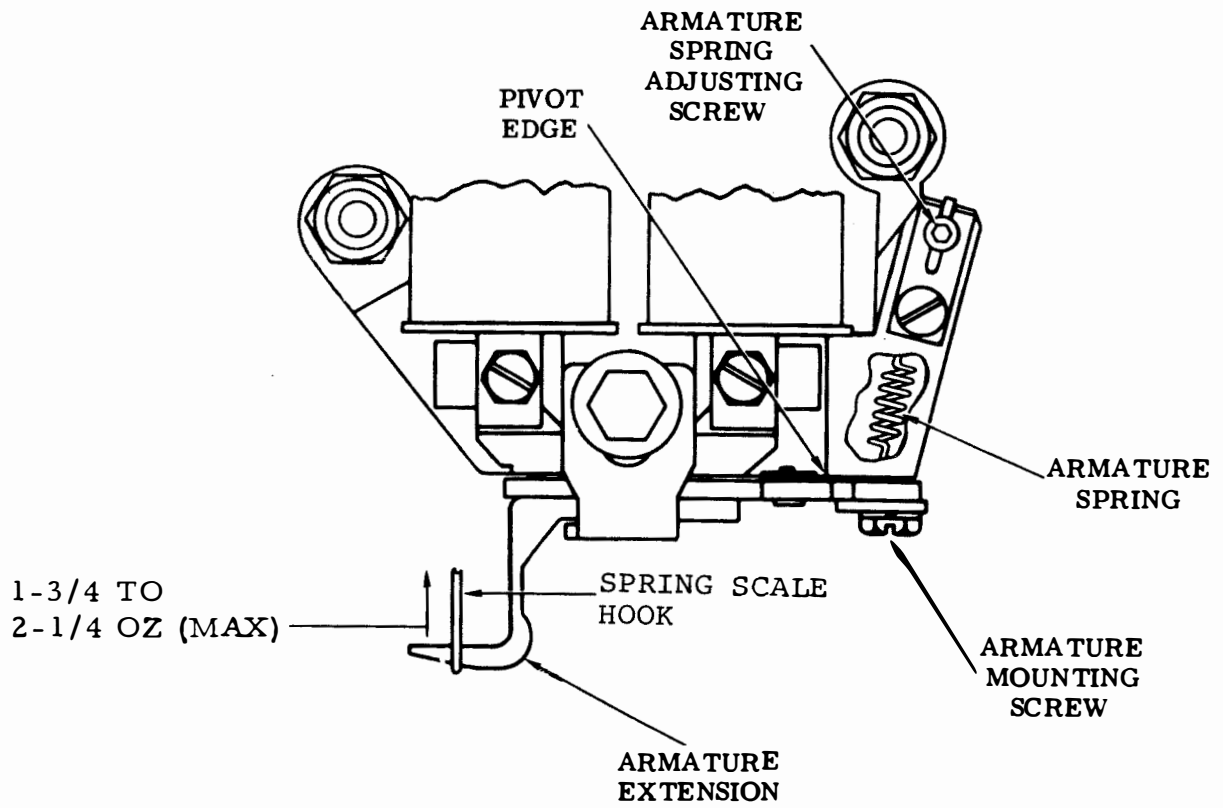

Figure 6-96. Selector Armature Spring (RFI), Front View with Coils and Associated Bracket Removed from Base
- (1) Refer to Figure 6-96.
- (2) Attach spring scale hook as nearly vertical as possible to end of armature extension. Force required to pull armature marking position should be between 1-3/4 and 2-1/4 ounces maximum.
- (3) If scale reading exceeds specified limits, turn adjusting screw clockwise to increase spring tension or counterclockwise to decrease spring tension.